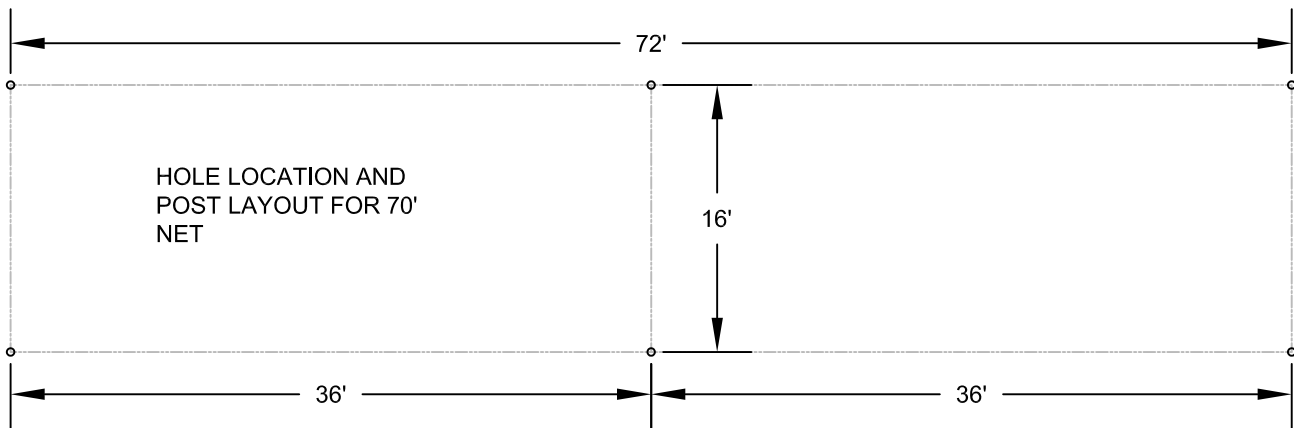
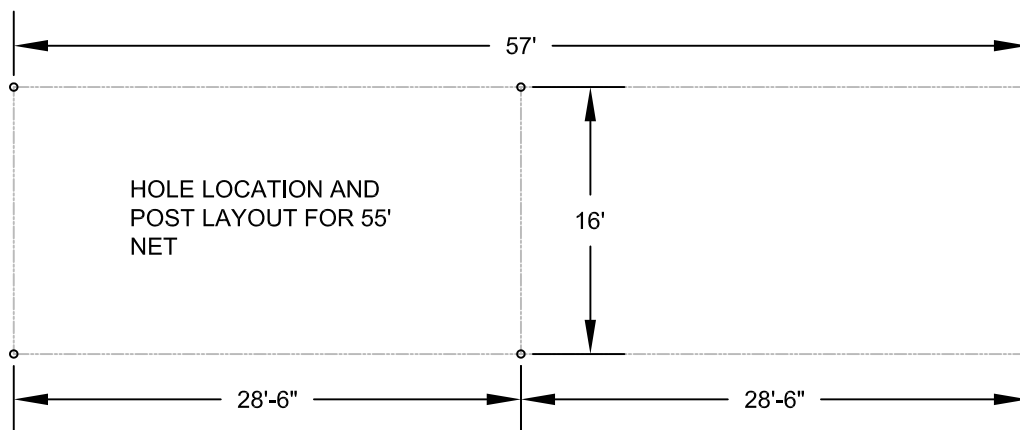

Figure 1
Figure 2
1. Select a site where the frame is to be erected. The ground should be as level as possible and free of debris and obstacles. See **figure 1** for a 70' net or **figure 2** for a 55' net. For best installation use a full coverage concrete slab.
See **SITE PREPARATION figure 1 & 2** and **FOOTING DETAIL figure 3**.
- STEP 1)** Dig 6 holes 30" deep and approximately 24" diameter. See **figure 1 & 2**.